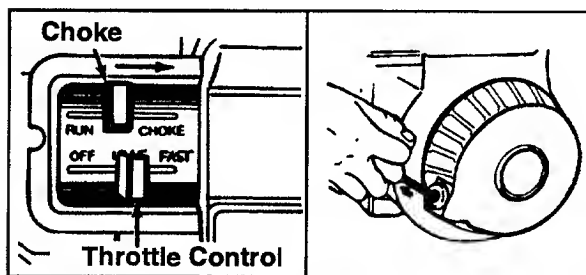

Figure 8
The throttle control lever is located on the engine. It controls the engine speed and stops the engine. See Figure 8.
3. Place the throttle control lever in FAST position. See Figure 8.
5. Grasp starter handle (see Figure 8) and pull rope out slowly until engine reaches start of compression cycle (rope will pull slightly harder at this point). Let the rope rewind slowly.
4. **Throttle Control:** The throttle control lever adjusts the engine speed and stops the engine. With the throttle control lever pushed completely forward, the carburetor is in START position. Pulling the throttle control back slightly adjusts the engine speed to FAST. Pulling the throttle back further reduces the engine speed to SLOW. Pull the throttle completely back to stop the engine. Refer to Figure 8.